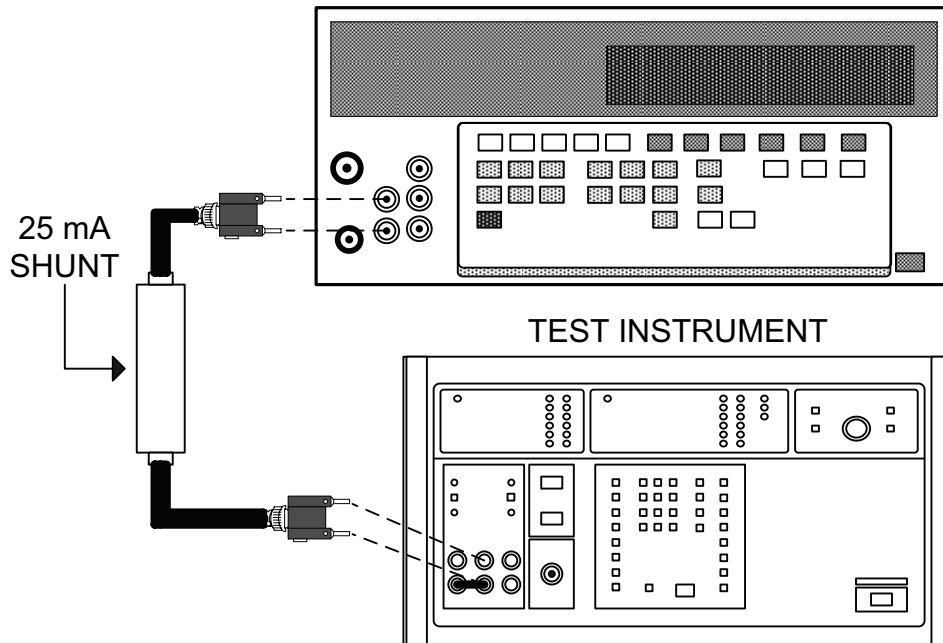

Figure 6. Ac current (19 mA to 1.9 A)
(1) Connect equipment as shown in figure 6. Press **INPUT 1** pushbutton on ac measurement standard.